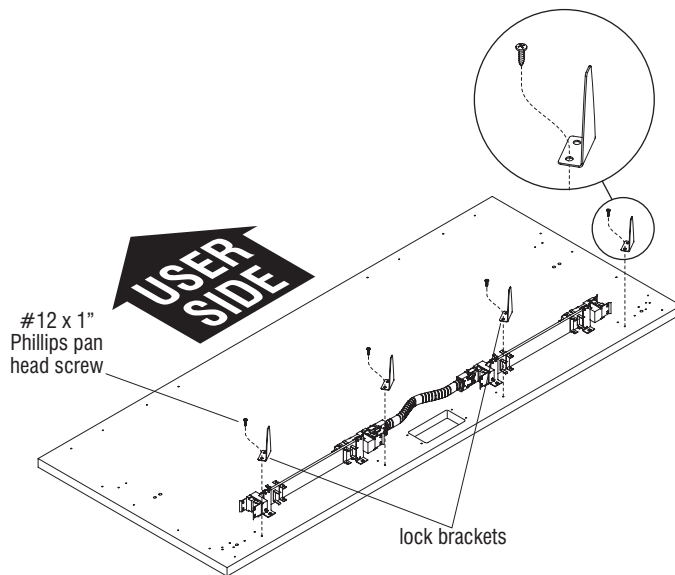

Figure 5 - Single-Sided Fixed Benching with 10-Wire Electrical & No Modesty Panels
Note: When 10-wire electrical is installed under a worksurface and no modesty panels are specified, "lock brackets" must be installed to help keep the power access door in position. The brackets are to be rotated as illustrated (Figure 5) and installed at this time using only the rear-most screw/mounting location. This allows for clearance to install the power access doors which will be installed at a later step.
4. To determine the correct mounting locations, position the power access door lock brackets over pre-drilled holes at underside of worksurface. Rotate the brackets such that only the rear-most bracket mounting hole is over the pre-drilled rear hole in the worksurface and attach all brackets not quite snug to worksurface with one #12 x 1" Phillips pan head screw (Figure 5).